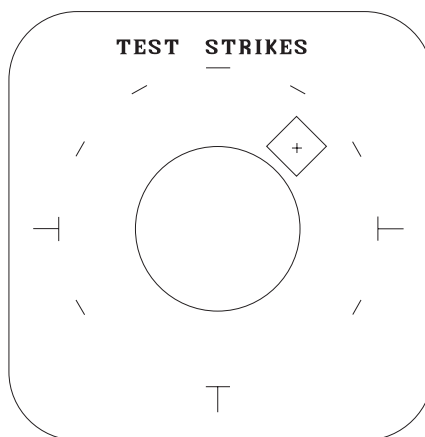

Figure 4-6. Test Strikes
3. If the noise monitor test is satisfactory, access TEST STRIKES, see figure 4-6.
The TEST STRIKES (see figure 4-6) are used by installers to visually verify the operation of the internal strike test signal. No range indication is displayed. The rectangular shaped box is displayed on the screen to enclose the area in which the test strikes should appear. Test strikes are generated and sent to the antenna at a rate of one pulse per every 2 seconds. The resulting test strike received by the system is displayed on the screen, and is indicated by a single strike symbol (+). The last strike is erased before the next strike is generated.